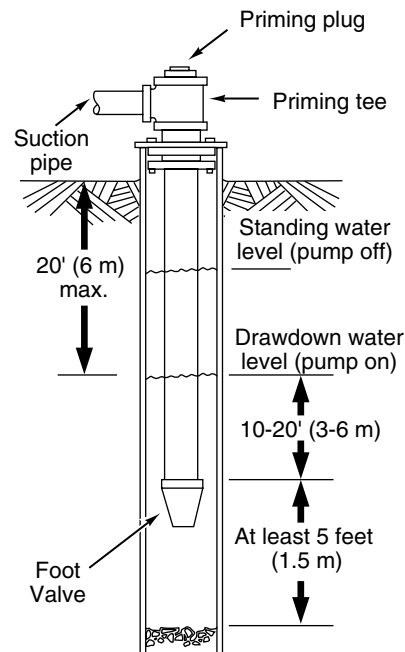

Figure 1: Cased/Dug Well Installation
- Step 5. When using foot valve, a priming tee and plug are recommended. (Fig. 1).
**NOTICE:** For long horizontal pipe runs, install a priming tee between check valve and well head (Fig. 1). For driven point installations, install check valve. Be sure that check valve flow arrow points **toward** pump.